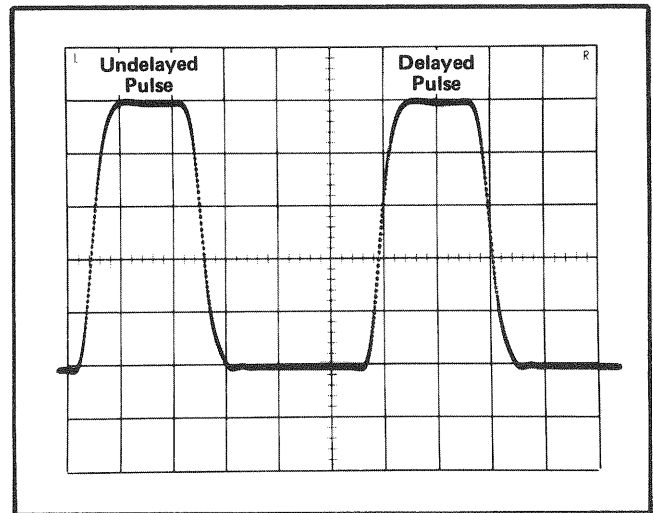

Fig. 5-7. Display of undelayed and delayed pulse pairs when checking trigger sensitivity. Pulse duration for the pulses should be equal.
- i. CHECK—Display should contain two pulses separated from each other approximately 60 ns (see Fig. 5-7). Adjust the DELAY VARIABLE to separate the two pulses (20 ns minimum separation). The pulse duration of the undelayed and delayed pulse should be the same.